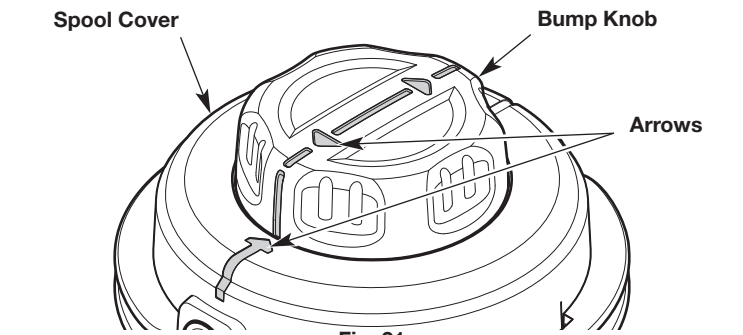

Fig. 21
- Turn the bump knob to align the arrows on the bump knob with the arrows on the spool cover (Fig. 21).